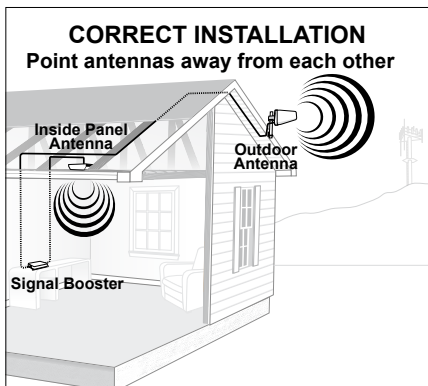

Figure 1
Note: *Never point the front of a directional antenna toward the Inside Antenna. See Figures 1 & 2 on page 10.*
1. Never point the front of a directional Outside Antenna toward the Inside Antenna. See Figures 1 & 2 above.